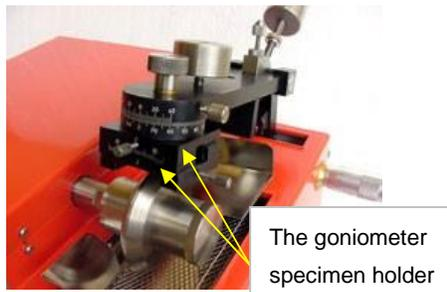

Figure 4
- 5.3.5 Place the aluminum block with the mounted specimen into the goniometer specimen holder by loosening the thumbscrew on the side of the goniometer. (Fig.4)